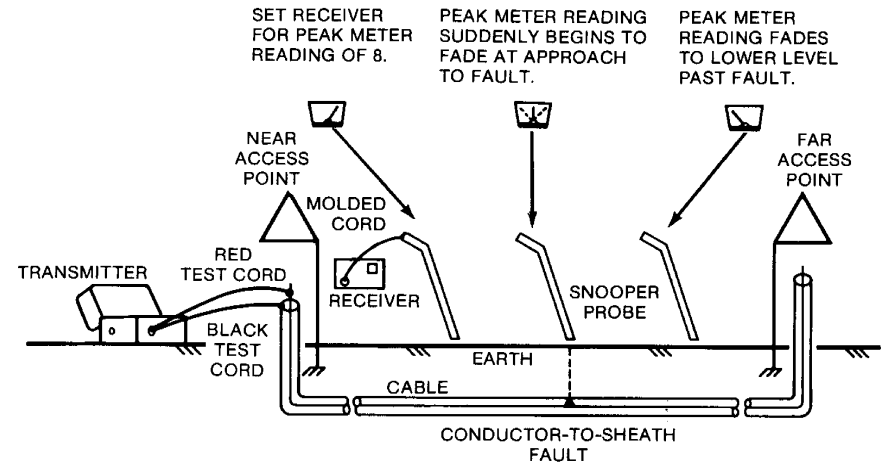

Figure 5-3.
The type of fault found in aerial coaxial cable is the conductor-to-sheath fault. You will use the transmitter hookup shown in Figure 5-3. For detailed instructions on how to locate aerial cable faults, refer to Section 3, page 70, HOW TO LOCATE FAULTS IN AERIAL TELEPHONE CABLE.
4. Plug the jack end of the red/black test cord into the TRACING TONE jack receptacle on the transmitter (see Figure 5-3).